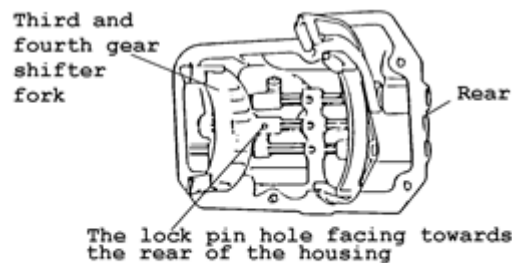

FIG. 24
- Position the third and fourth gear shifter fork on the shifter shaft so that the lock pin hole in the shifter fork is toward the rear of the housing (Fig. 24 until the poppet ball seats into the second detent (neutral)).